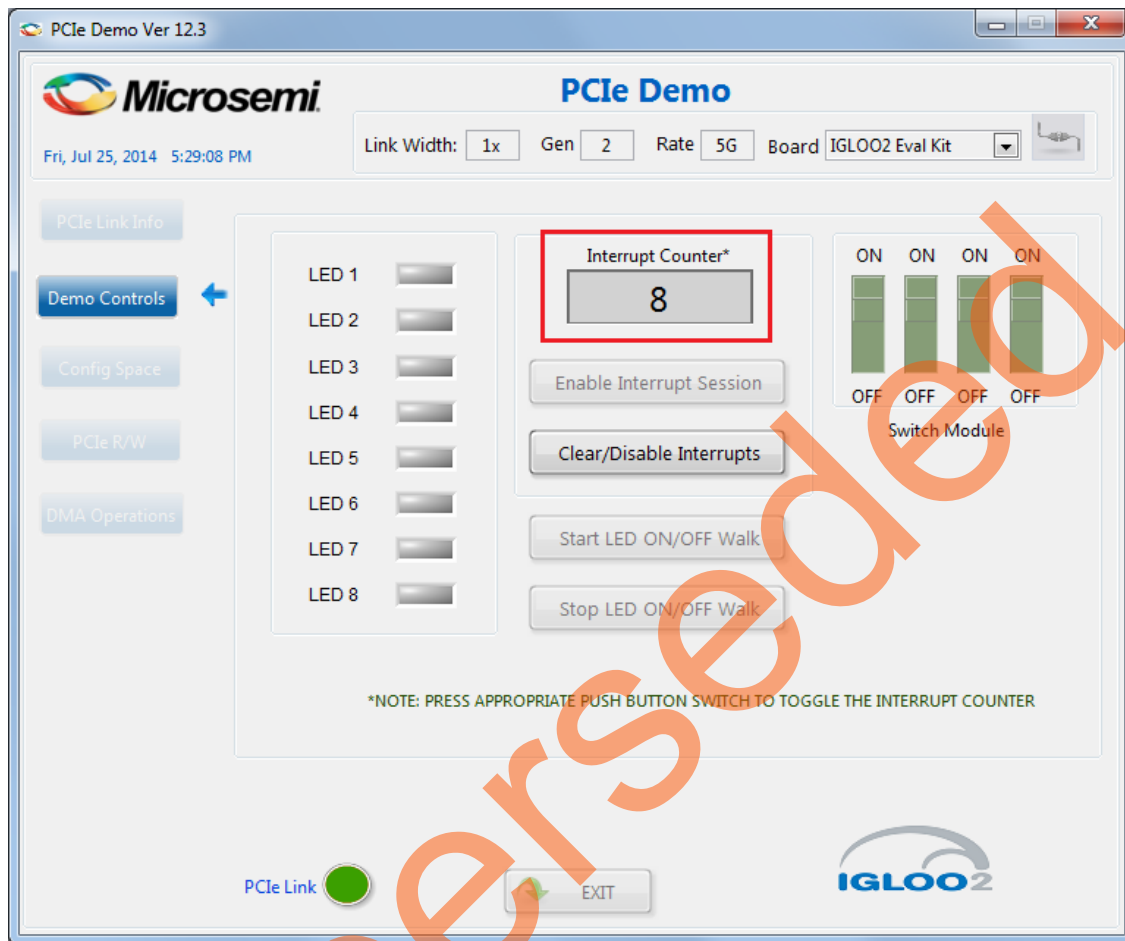

Figure 21 • PCIe Interrupt
11. Press the **Push** button, SW4 on the IGLOO2 Evaluation Kit board. Observe the interrupt count on the **Interrupt Counter** field in PCIe_Demo application as shown in Figure 21.